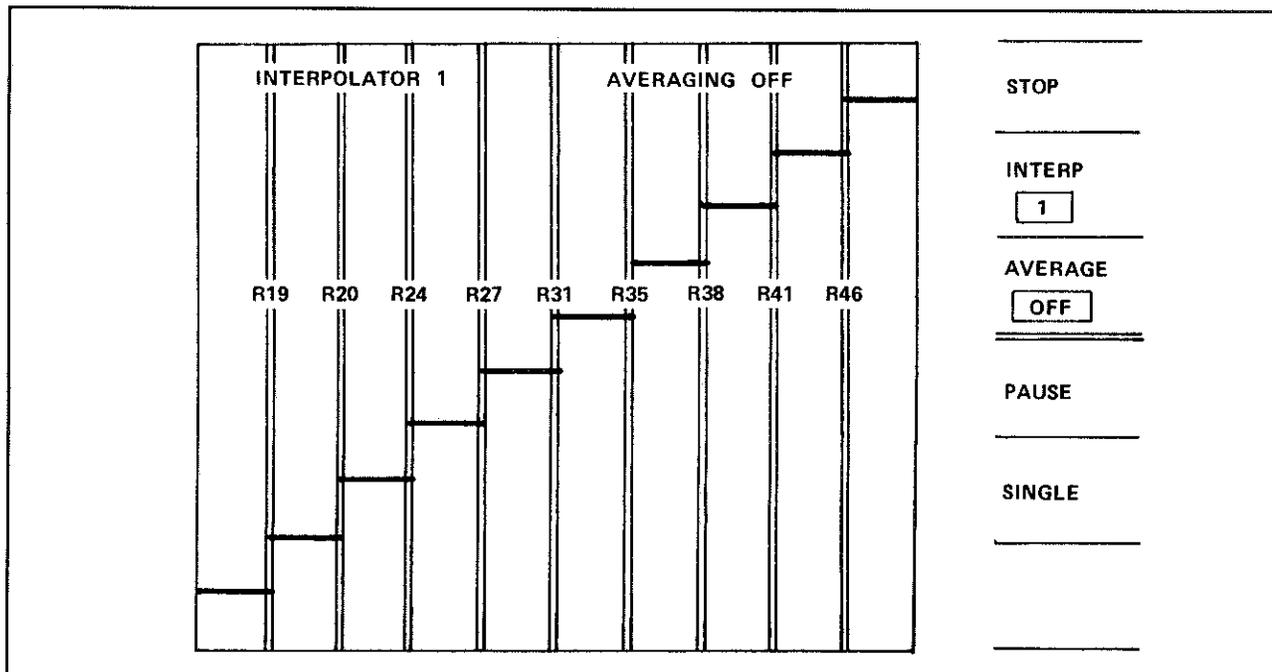

Figure 3-4. Interpolator Adjustment Test Screen (With Averaging Off)
- K. The screen should display a staircase pattern as shown in *Figure 3-4*. A potentiometer is specified at each of the nine transition bands. Each potentiometer controls the steps on both sides of the transition band.